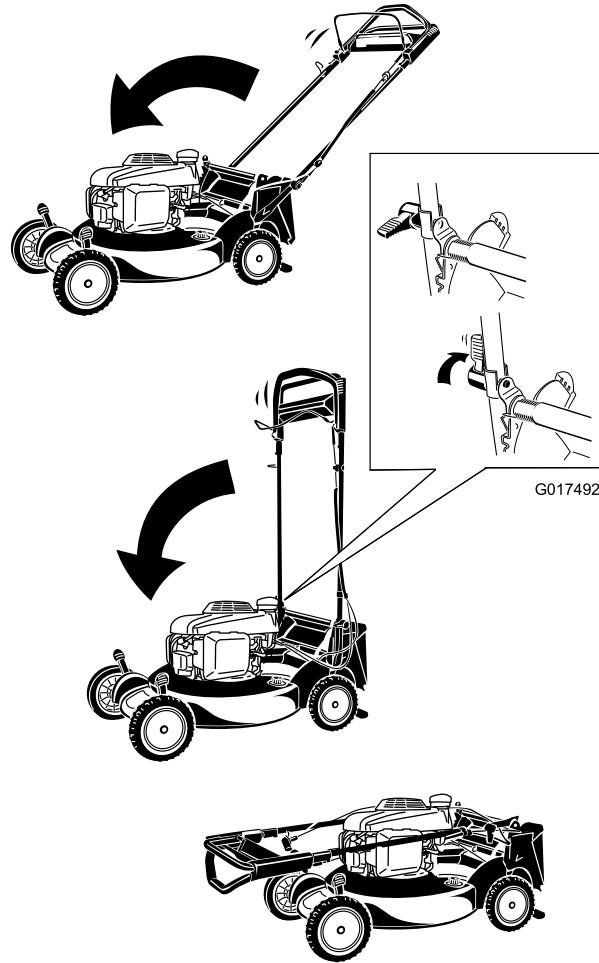

Figure 22
1. Rotate the handle forward (Figure 22).